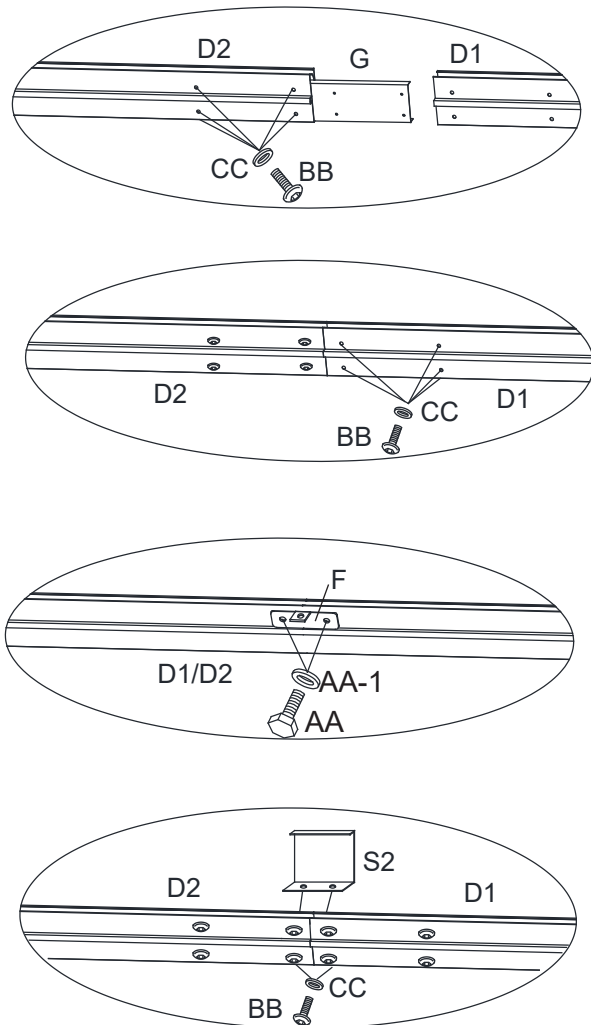

Fig.3.2
3.2. Connect the Long Left Lintel (D1) with the Long Right Lintel (D2) through the Lintel Connector - Large (G) with bolt (BB) and washer (CC), then screw in the Connector (F) into the lintel (D1/D2) using bolt (AA) and Steel washer (AA-1), put the Lintel Cover - Center (S2) onto the joint of the two lintels with bolt (BB) and washer (CC), pay attention to install the screws based on the orders shown in the illustration. See.Fig.3.2